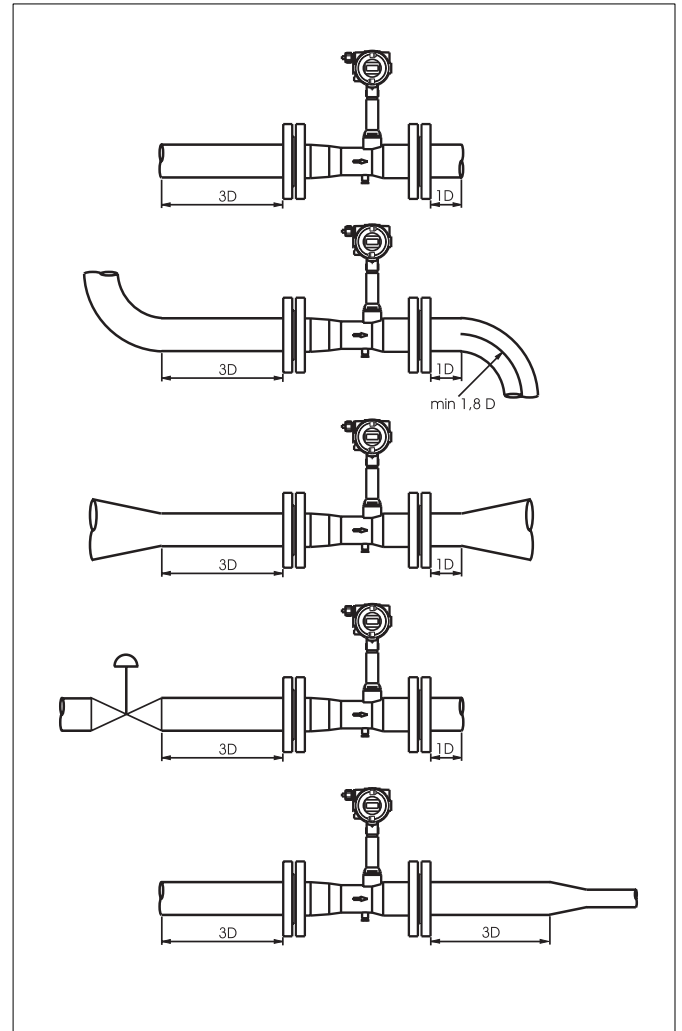

Fig. 3 Recommended In- and Outlet Straight Sections
- the recommended in- and outlet straight sections are provided (Fig. 3).
Due to the measurement principles of the Swirl Flowmeter it can be installed with very minimal in- and outlet straight section lengths. Fig. 3 shows the recommended lengths for the in- and outlet straight sections for various installation conditions. No in- and outlet straight sections are required when single or double elbows are installed up- or downstream from the flowmeter primary when the radius of the radius is greater than $1.8 \times D$. No additional in- and outlet straight sections are required downstream from reducers per DIN 28545 ($\alpha/2=8^\circ$).